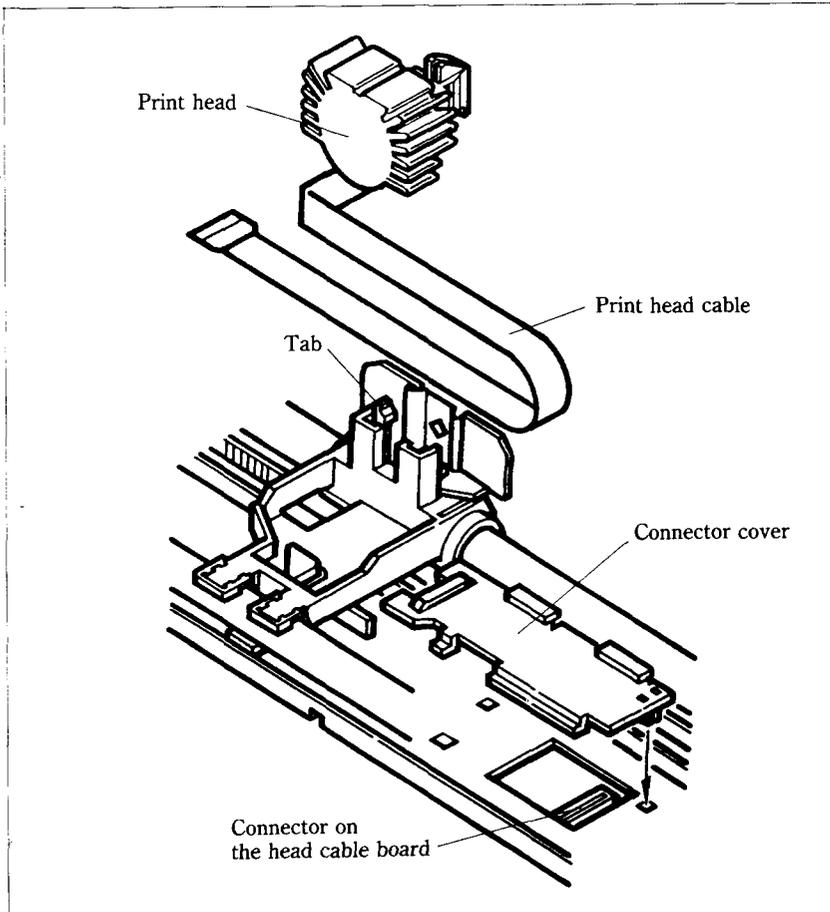

Figure 8-4. Replacement of the print head.
2. Remove the print head left along the carriage, until you can see the connector cover. Remove the cover from the printer frame; for details, see Figure 8-4. Unplug the print head cable from the head cable board.